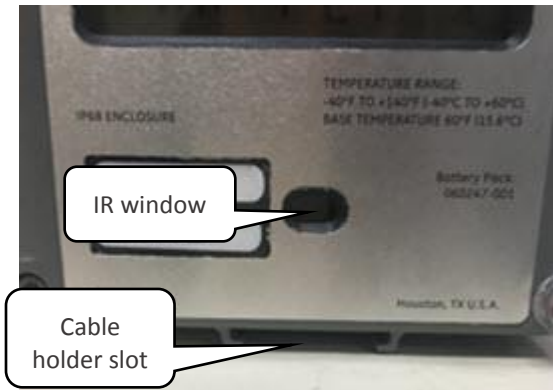
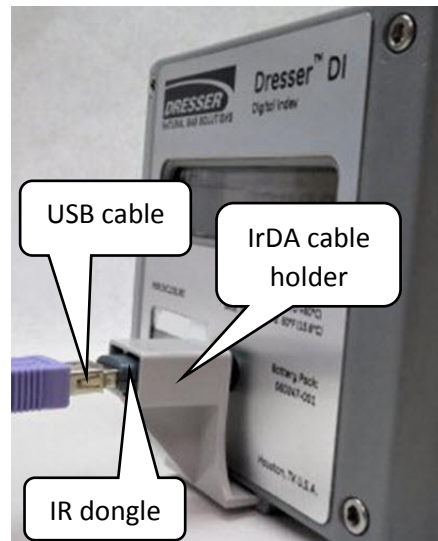

Figure 10: Location for holder installation
Figure 13: IrDA connected to a Series K
**Note:** The IrDA cable holder and location may vary depending on the type of unit (refer to Figure 10 through Figure 13).